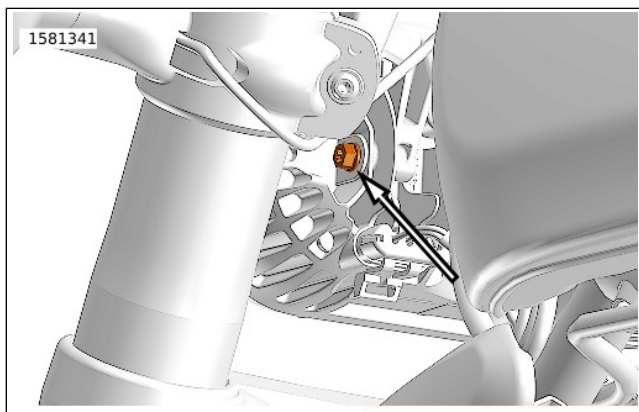

Figure 69. Headlight Adjustment Screw (left side shown)
3. See Figure 69. Loosen screws on left and right sides of headlamp.